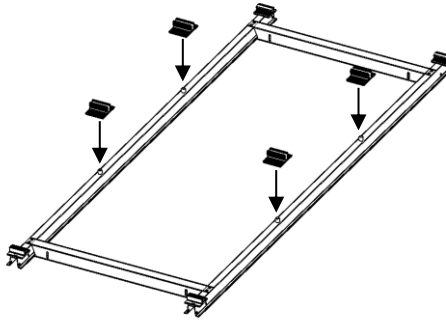

Figure 1 Place Fast Clamp Insulators onto Sub-Frame standoffs
1.2 Place Fast Clamp Insulators onto the four standoffs on the sub-frame. Figure 1